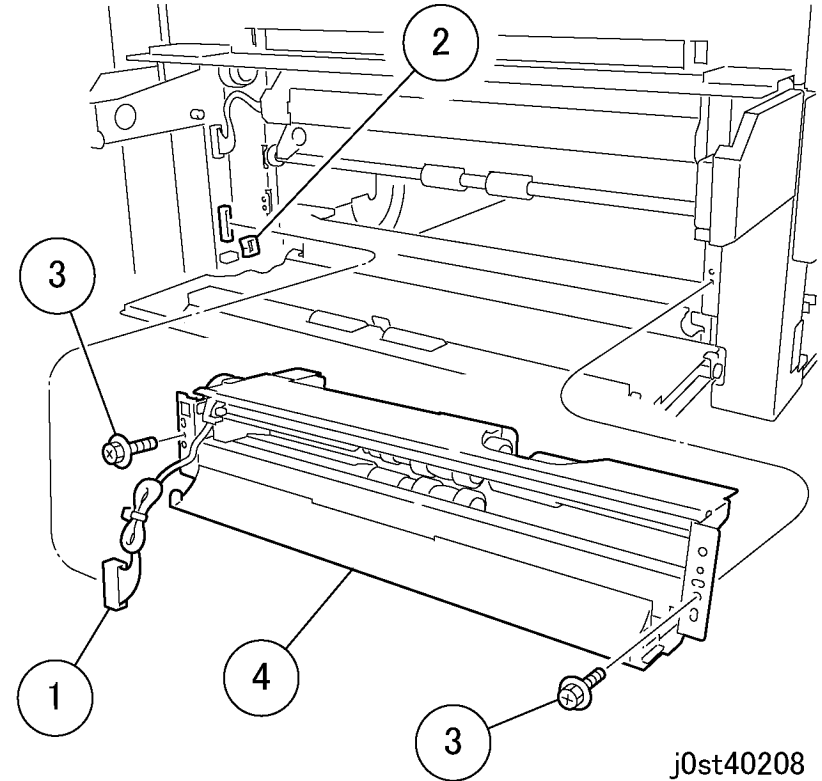

Figure 3 Removing the Feeder 2 Assembly (j0st40208)
7. Remove the Feeder 2 Assembly. (Figure 3)